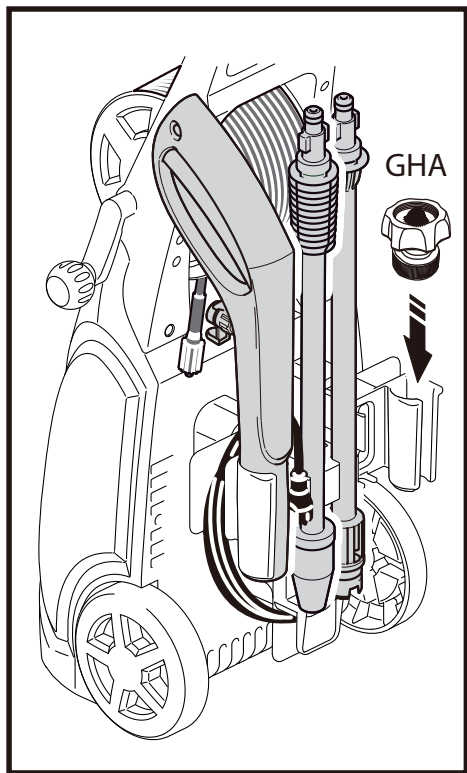

Fig. 2
- Please refer to (Fig. 2) for accessory storage locations on the accessory holder.